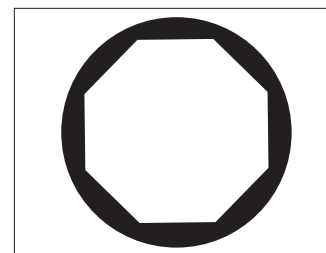

Figure 2 (at right)
9. Remove the right eyepiece and view through the eyetube. Close the aperture (condenser) diaphragm completely, then reopen it until the leaves obscure approximately 20% of the outer field of view (**Figure 2**). Finally, replace the eyepiece.